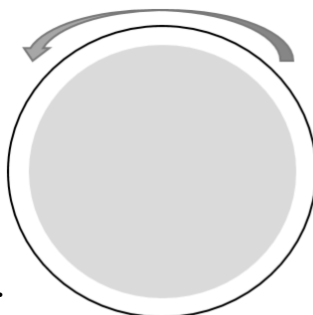

Fig. 1
- Remove the diffuser by rotating bezel anti-clockwise (see Fig. 1)